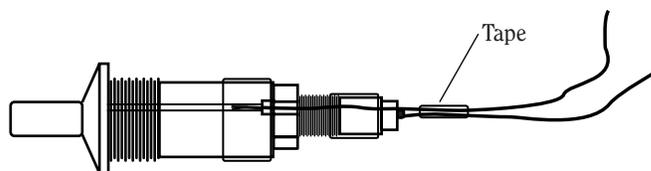

Figure 4.
4. Line up the two pieces of insulated wire and tape them together just above the metal post (Figure 4).